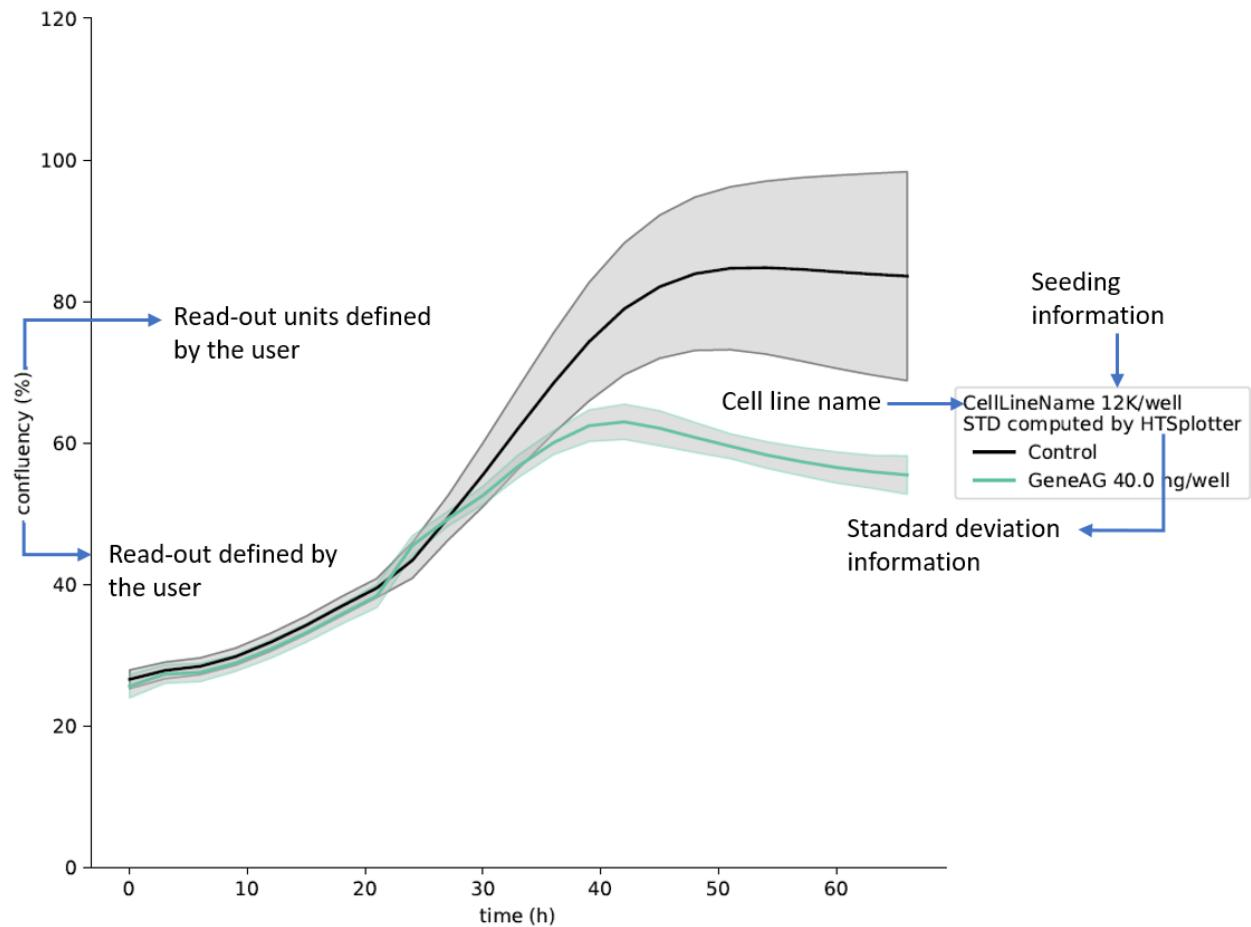

Figure 38: XY-plot showing the raw data for control and GeneAG conditions.
- Raw data plotted as XY-plot, for each perturbagen, see Figure 38.